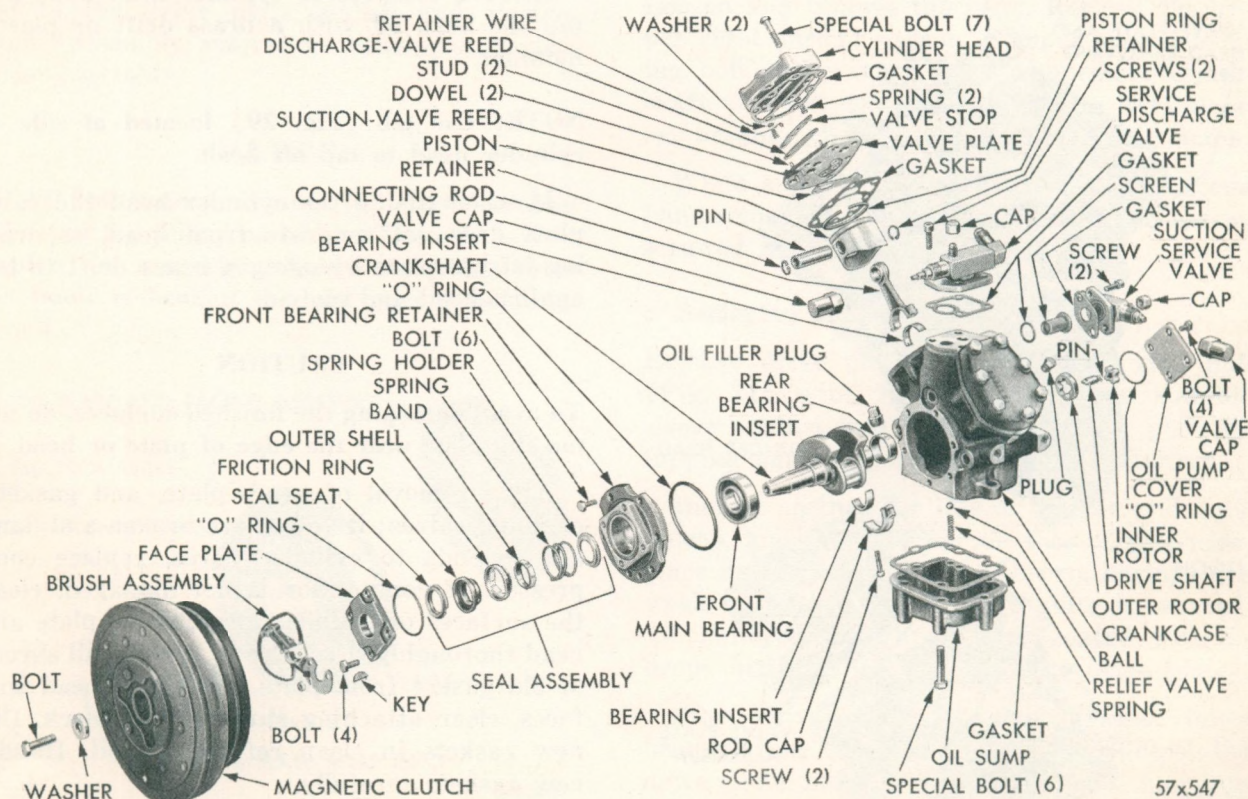

Fig. 28—Disassembled View of Compressor
27. REMOVAL AND INSTALLATION OF COMPRESSOR (Fig. 28).